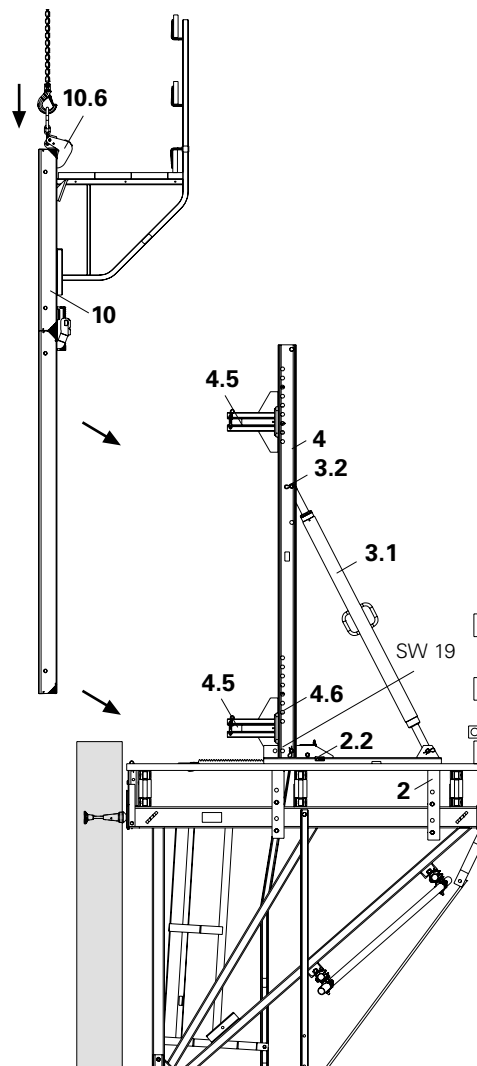

Fig. B2.21
1. Retract Carriage (2) and secure with wedge (2.2), see B4.1.
2. Fix Connectors CB (4.5) to the Strongback CB (4) using bolts $\varnothing 25 \times 180$ and cotter pins (4.6).
3. Attach Strongback (4) to the Carriage (2) using bolts $\varnothing 25 \times 180$ and cotter pins (4.6).
4. Attach Adjustable Brace (3.1) to Strongback using bolts $\varnothing 25 \times 180$ and cotter pins (3.2) and laterally brace Strongbacks. (Fig. B2.21)